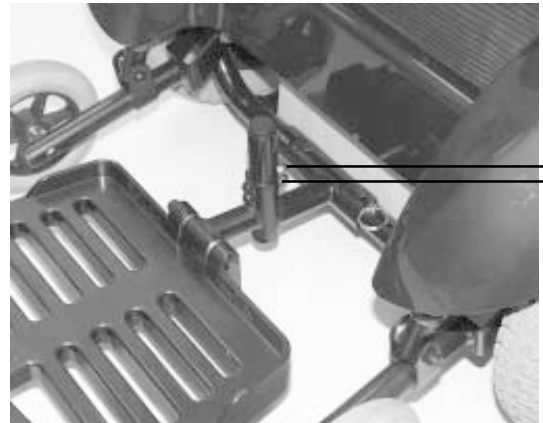

Figure 17. Footrest Height
1. Remove the two 7/16-in. bolts and their nuts from the footrest. See figure 17.